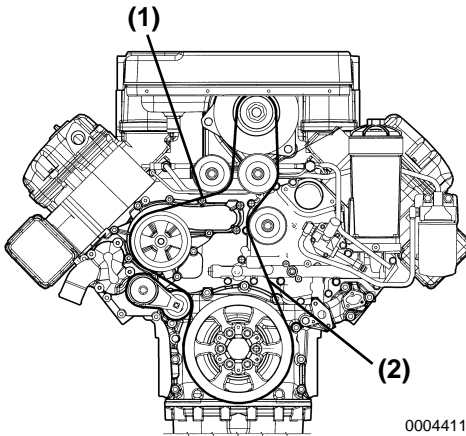

Figure 13
2. Check the belt by pushing on the middle of the belt (**Figure 13, (1 and 2)**) with your finger, exerting a force of approximately 98 N, 10 kgf (22 lbf). With proper tension, the belt should deflect 8 - 10 mm (3/8 in.).